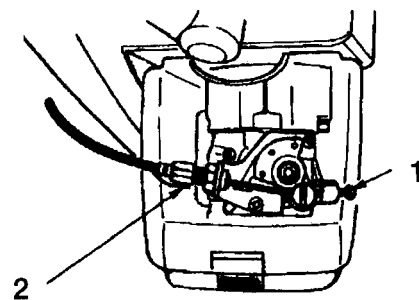

FIG 33B
- The idling screw adjustment is accessible without removing the air filter cover. See Fig. 33B. To increase engine idle speed, turn IDLE SCREW (#1) clockwise (Refer Fig. 33B). To decrease engine speed, turn IDLE SCREW counter (anti) clockwise. Throttle trigger to be in idle position.